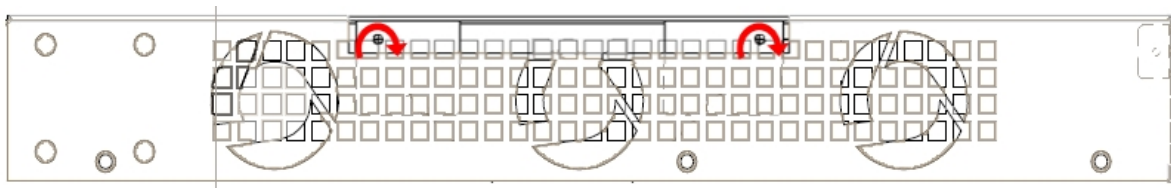

Fig. 31: **Rearranging the top panel's flap screws**
- (6) Place the MiniPoE card so that it matches the two connectors. This operation must be carried out carefully, without forcing any piece or part of the device. Check that the card is clearly settled over the connectors.
- (7) Reposition the top panel flap and screw it into place using the screws. Please see Fig. 31 on page 20.